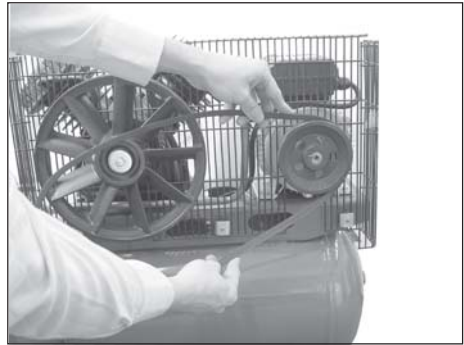

Figure 18
- 2 Place the replacement drive belt over the small wheel. See figure 18.